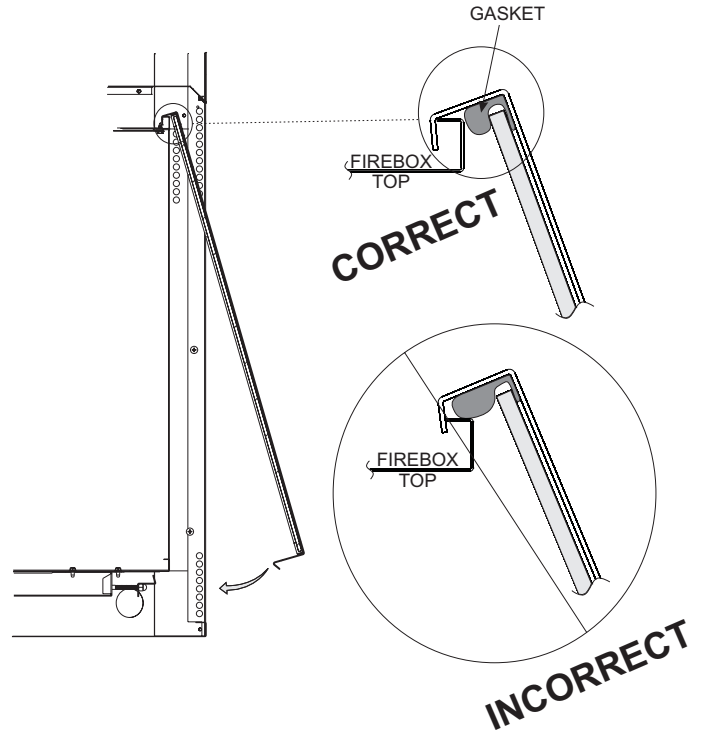

Figure 81
1. When installing the glass door, make sure that the door top flange is hooked over the firebox top flange as illustrated in the "Correct" view in **Figure 81**.
Important: Do not allow the gasket across the top of the door to roll up on top of the firebox flange as shown in "Incorrect" view in Figure 81.